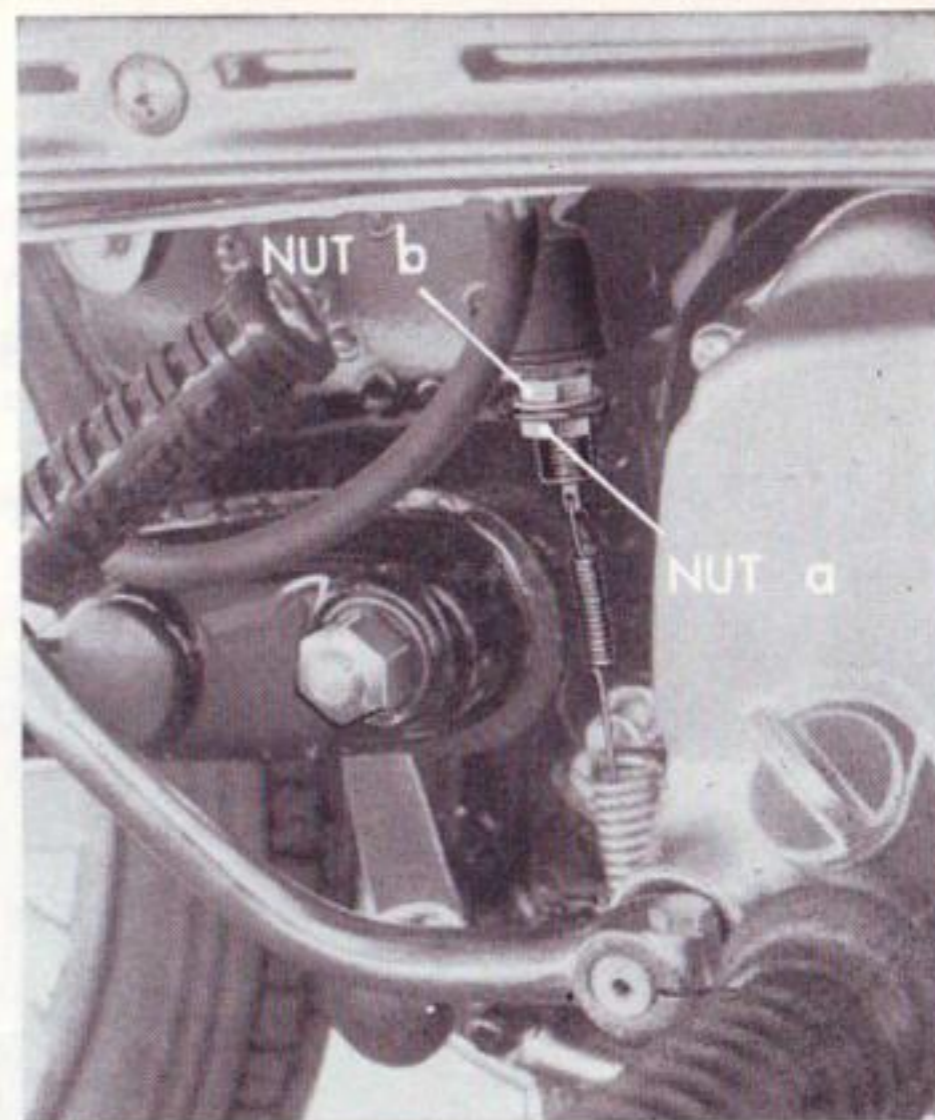

Fig. 18
3. To adjust the stop light switch, loosen nut a and adjust with nut b. (Fig. 18)